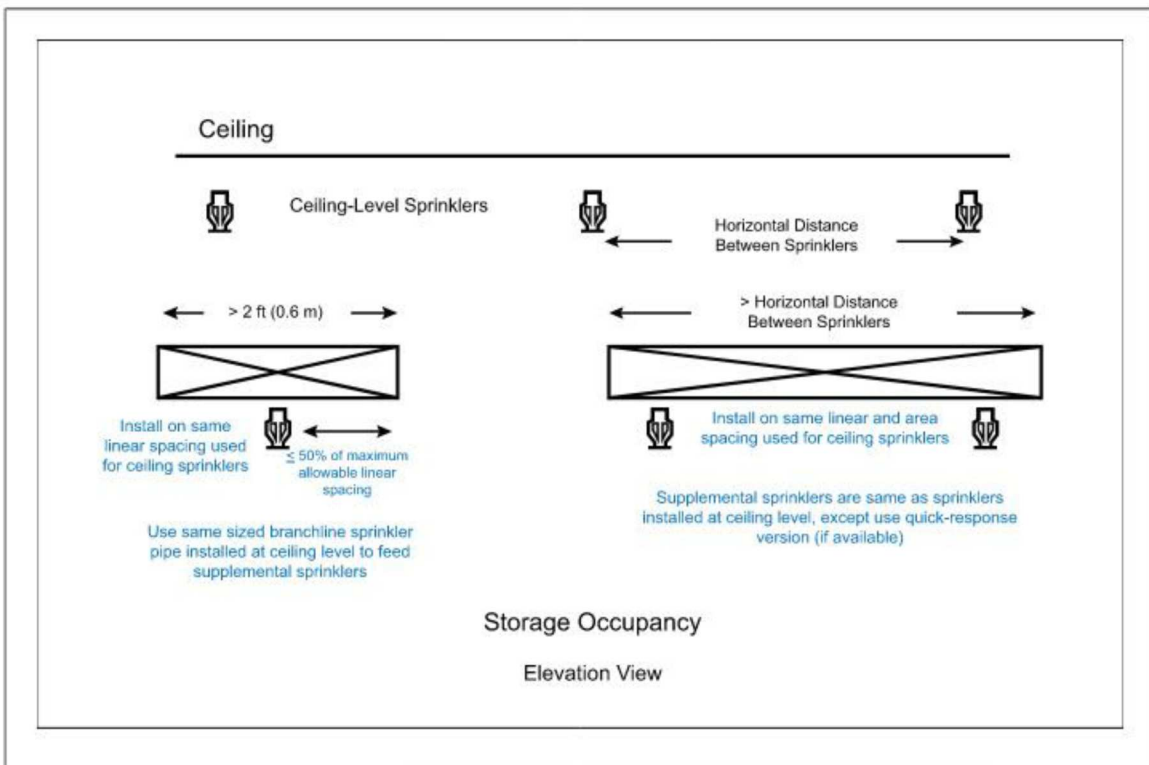

Fig. 2.5.4.5.5.1. Supplemental ceiling-level sprinklers installed below flat, solid, individual obstructions over 2 ft (0.6 m) wide
2.5.4.5.5.2 For flat, solid, grouped objects over 2 ft (0.6 m) wide, install supplemental sprinklers under the objects in accordance with Figure 2.5.4.5.5.2. Note that in Option 1, both objects are over 1 ft (0.3 m) wide. In Option 2, however, at least one object is less than or equal to 1 ft (0.3 m) wide.